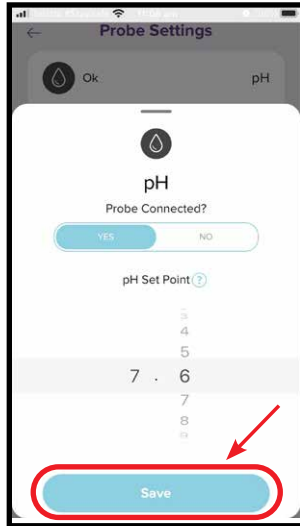

Figure 8.11
- Once your preferred set point is shown, press “save” (refer figure 8.11);